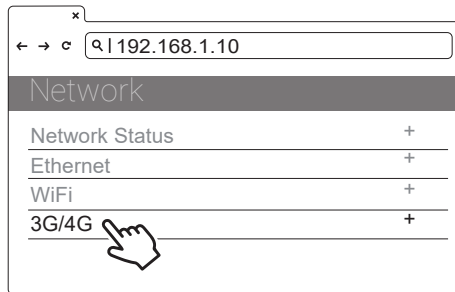

Figure 39. Network Select
4) Select: SET | Network | 3G/4G. See Figure 39.